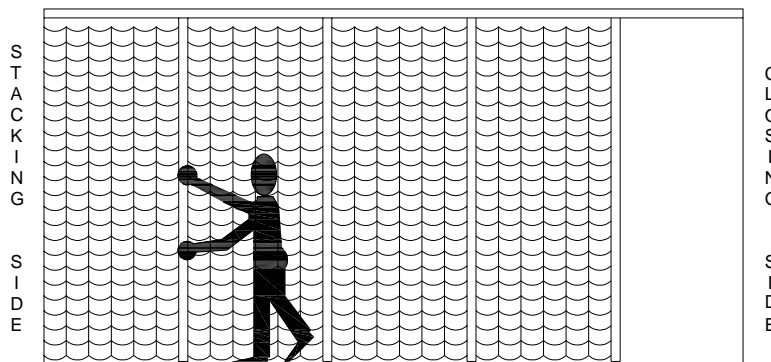

Fig. 1-3
4. Stand at the stacking side of the closure and push the vertical channels toward the storage area one at a time until the entire closure is in its storage area. See Fig. 1-3.